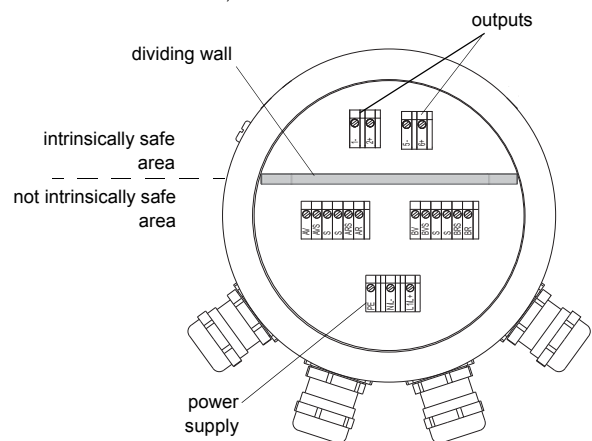

Fig. 7.9: Terminals for the connection of the power supply and the outputs
- Connect the leads to the terminals of the transmitter according to the voltage printed on the nameplate below the terminal strip KL1 (see Fig. 7.3, Fig. 7.9 and Tab. 7.6).
- Connect the leads of the output cable to the terminals of the transmitter (see Fig. 7.3, Fig. 7.9 and Tab. 7.7).